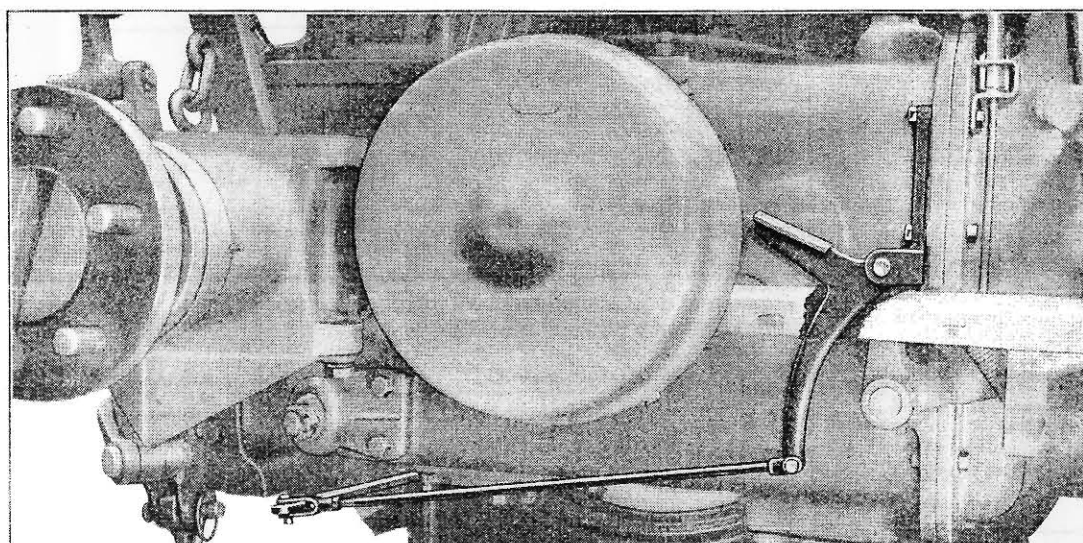

Fig. 3
16. Install the pick-up hitch release pedal and operating linkage assembly as shown in Fig. 3, using a long bolt (20547-S) in the top locating hole and a shorter bolt (20543-S) in the lower.